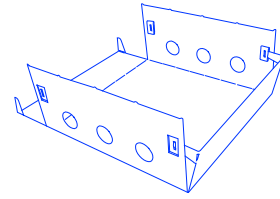

Fig 3.
5. Bend the sides with the tabs up 90°, ensuring the interlocking tabs are inserted into their receptacles on the adjacent sides- Fig 3.